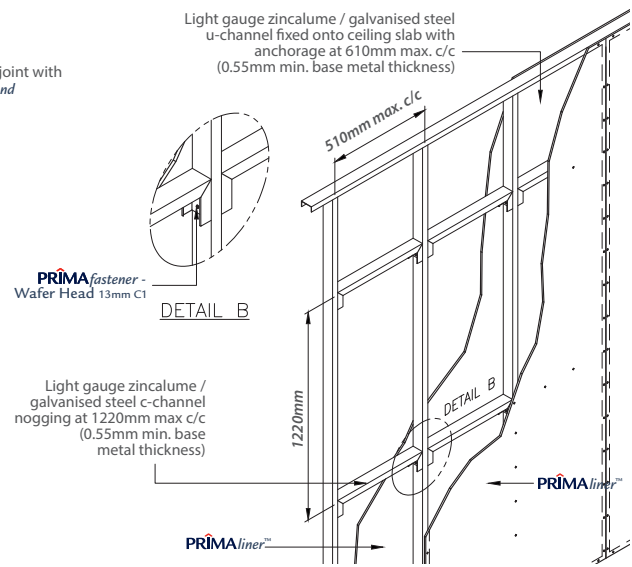

Figure 4: Nogging Installation Method
- Manually cut the nogging length as required (normally at 610mm max, follow the C-stud spacing) and install horizontally at maximum spacing of 1220mm center. Refer to Figure 4 for nogging installation details.